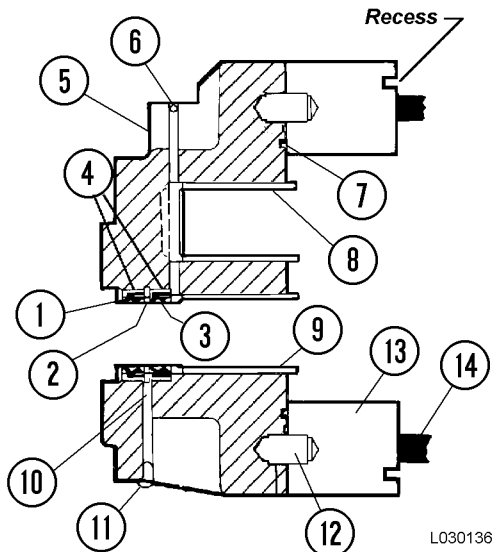
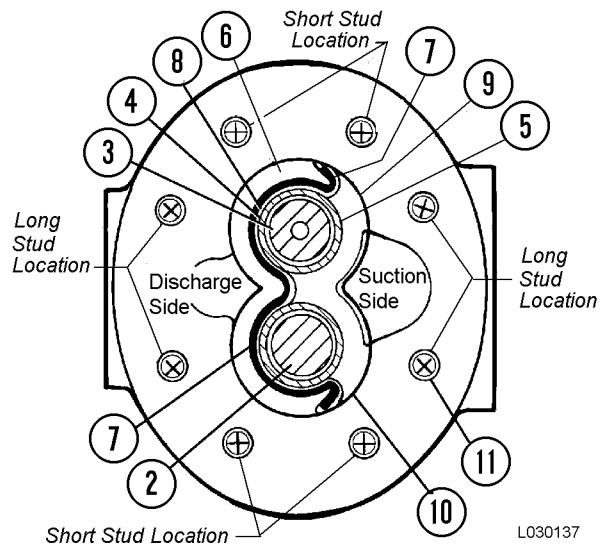

FIGURE 3-11. SHAFT SEAL INSTALLATION
FIGURE 3-12. PUMP REASSEMBLY
7. Install snap ring (2, Figure 3-11) with the snap ring opening over weep hole (10).
9. Lubricate thru stud threads (14, Figure 3-11) with hydraulic oil. Thread the studs into flange until snug. There are 4 long studs and 4 short studs. Reference Figure 3-12 for proper stud location. Lubricate and install O-ring (7). Install dowel pins (12), if removed. Install gear plate (13). Make sure the recess in the gear plate will be toward the connector plate, or facing up when the gear plate is installed.
10. Install steel rings (5, Figure 3-12). Lubricate and install backup ring (8), O-ring (7) and ring retainer (6) as shown in Figure 3-12.
11. Install isolation plate (9) on the suction side of the gear plate. The isolation plate has a relief area milled on one side; turn that side up or toward the pressure plate.